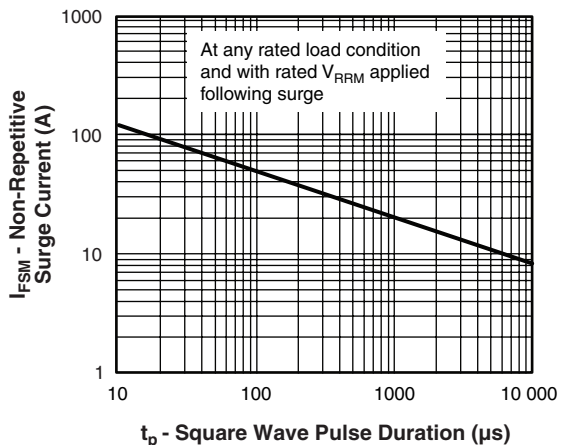

Fig. 6 - Maximum Non-Repetitive Surge Current (Per Leg)
(1) Formula used: $T_C = T_J - (P_d + P_{dREV}) \times R_{thJC}$; P_d = Forward power loss = $I_{F(AV)} \times V_{FM}$ at $(I_{F(AV)}/D)$ (see fig. 6); P_{dREV} = Inverse power loss = $V_{R1} \times I_R (1 - D)$; I_R at 80 % V_R applied